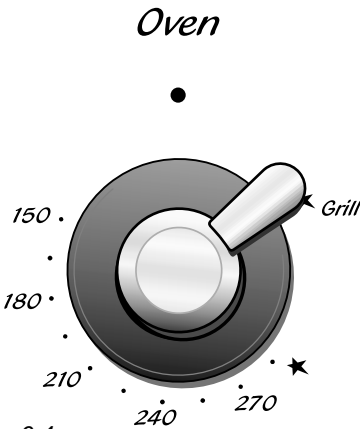

Fig. 6.4
- 2) Lightly press and turn the thermostat knob clockwise to the  **Grill** position (fig. 6.4).